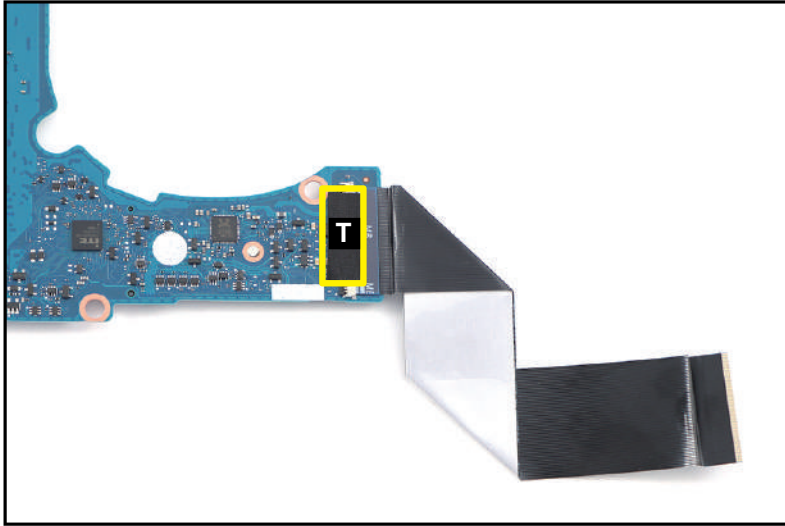

Figure 3-67. Mainboard Removal
16. Flip the mainboard. Then detach the tape (T) securing the USB board FFC connection (Figure 3-67).